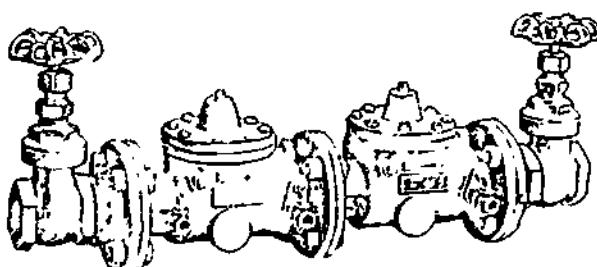

Figure 30-6. Double Check Valve Backflow Preventer
51. They must not be installed in pits or locations where they can be flooded. (See Figure 30-6.)